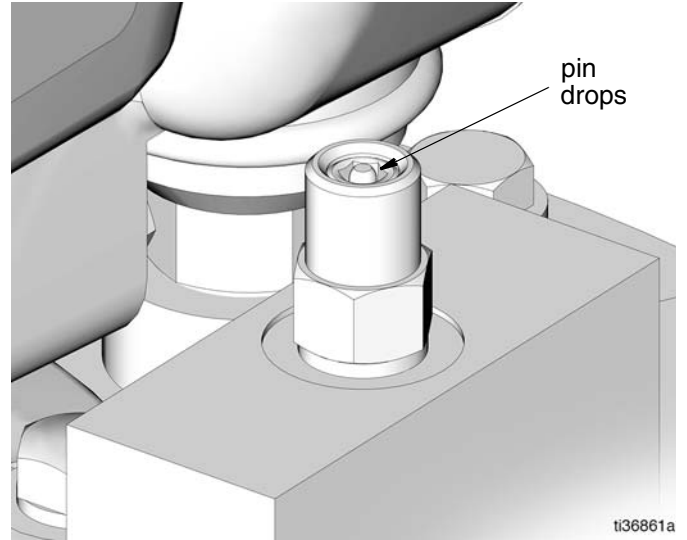

FIG. 17
Make sure Auto-Fill Shut Off (S) pin is down. See FIG. 17, page 17.